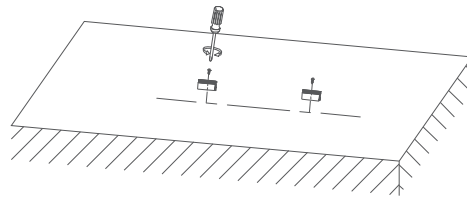

figure 1
- First fix the fixing booth to the place where you are going to install the led strip, as shown in Figure 1.